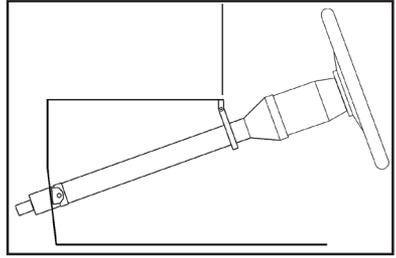

Figure 1
***The steering column must be supported at the dash with a dash mount and supported where it protrudes through the firewall with a floor mount.*** (Figure 1) It is vital that the steering column is tight and secure.